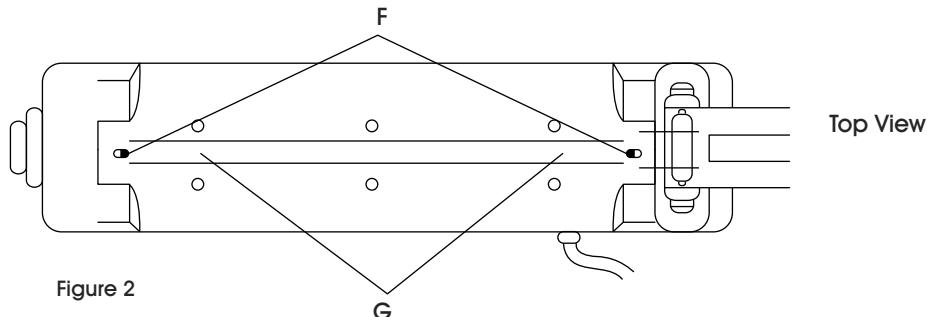

Figure 2
3. After removal of metal cover plates, PTFE tapes and element, clean sealing surface (G) with cleaner until free of glue and debris. Adhesive remover is recommended. (See Figure 2)
4. Peel off backing of new or replacement Uline kit adhesive PTFE tape. Apply evenly onto sealer. Excess tape should extend all the way to the terminal posts (F). If the element touches any metal, the sealer will short out. (See Figure 2)